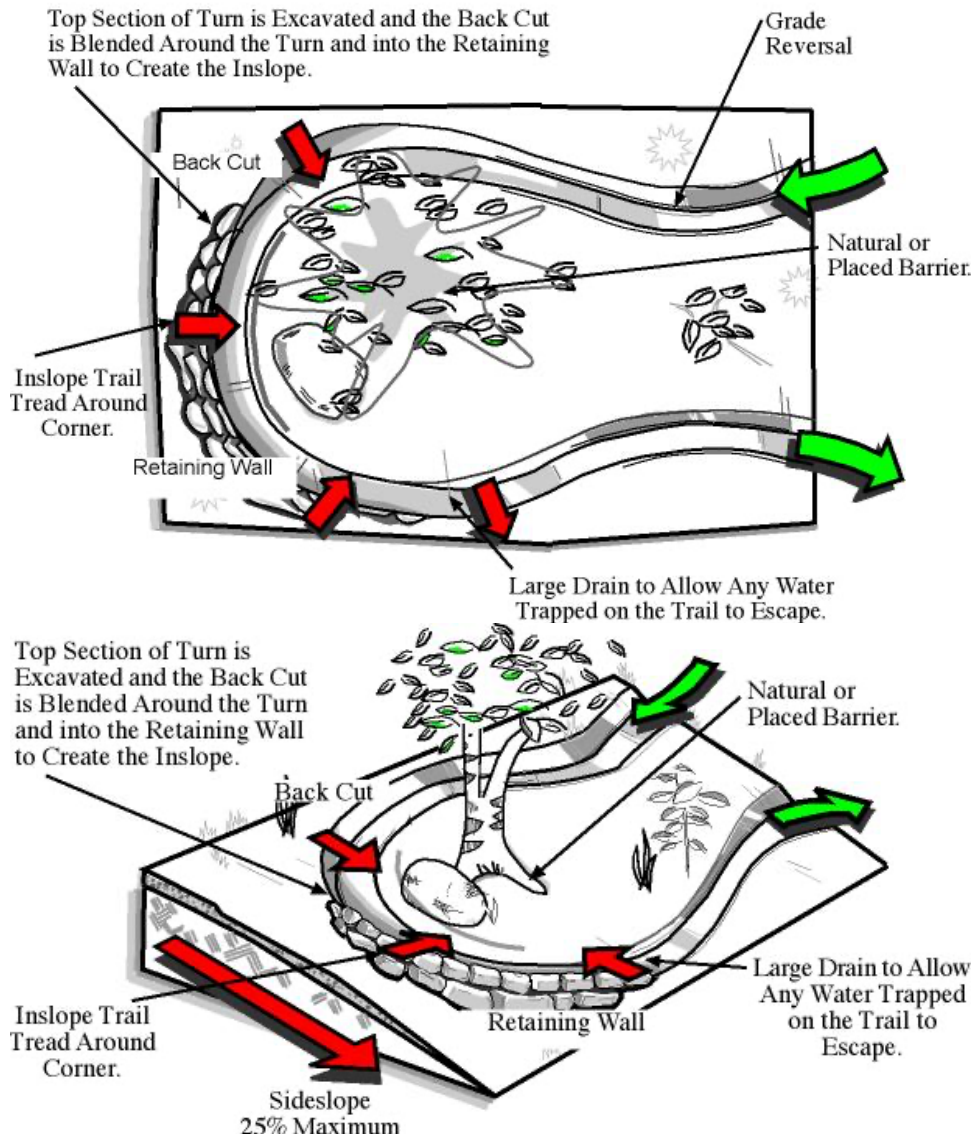

Figure 11: Insloped Turn
7.8 Constructed Turn/Insloped Turn (Figure 11)